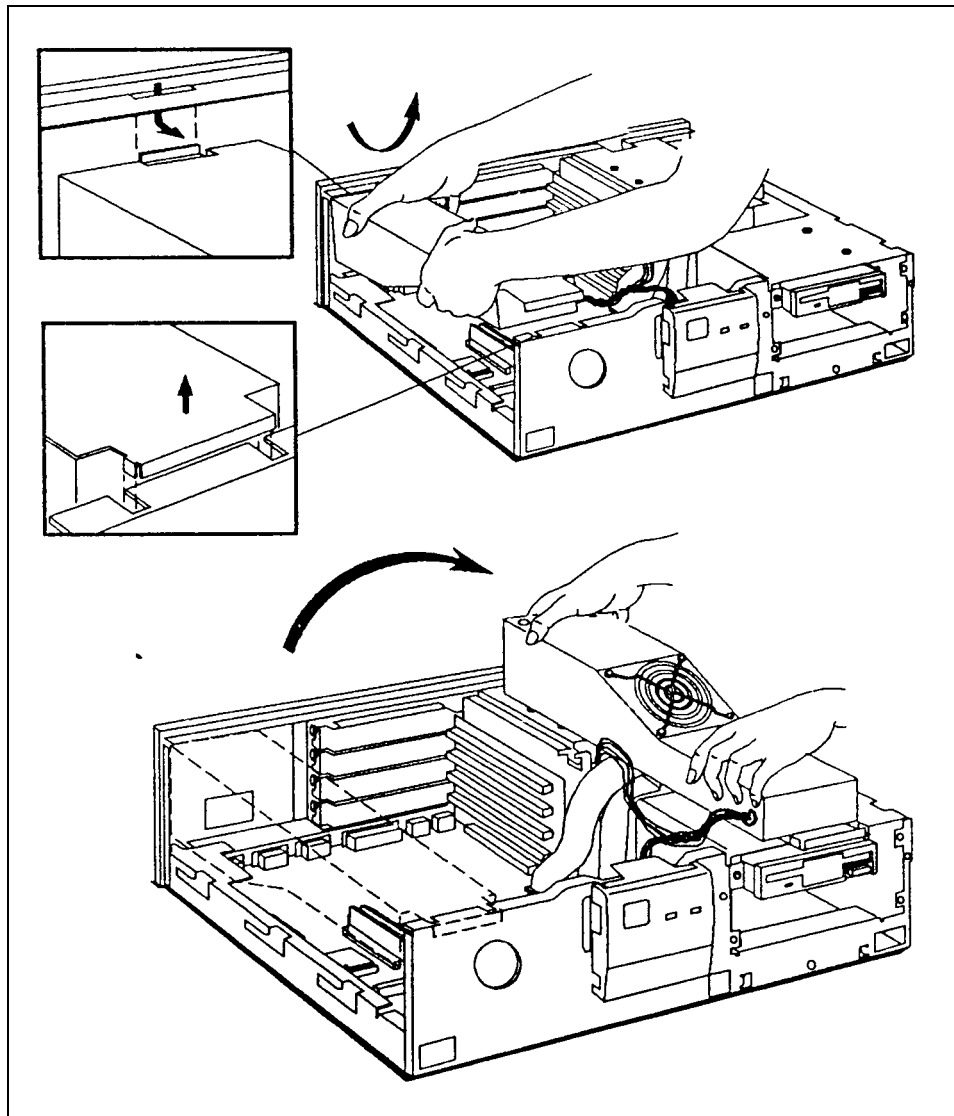

Figure 2-6. Removing the HP Vectra Power Supply
11. Remove the power supply (Figure 2-6) to allow access for moving jumpers and installing boards.